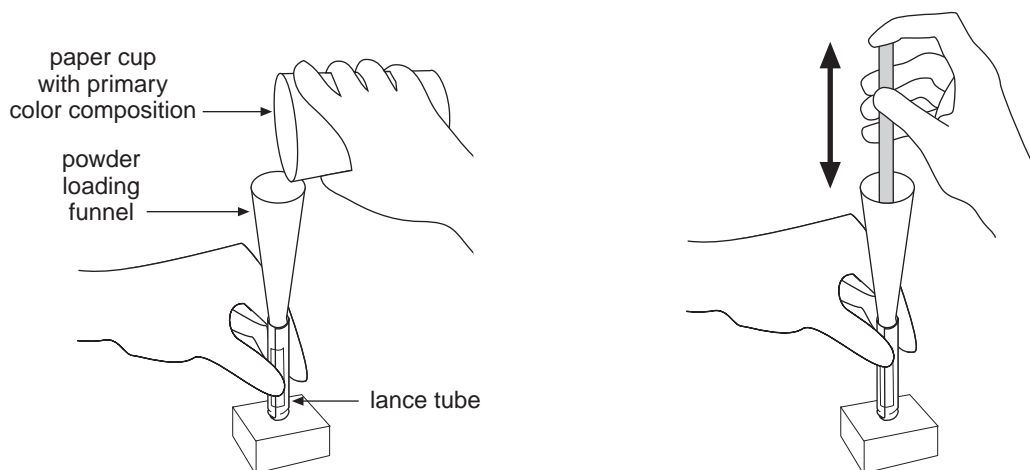

Figure 5: Adding and compacting the material
2. Making a funnel out of paper, fill one of the lances with the material. Filling is easier if the lance is standing in the base. Use the compacting (smaller-diameter) dowel to help fill the lance and to gingerly tamp the materials down. (See Figure 5.)